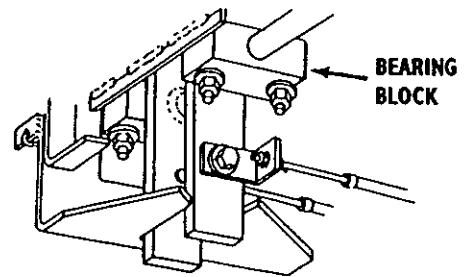

FIGURE 13
- b. Loosen bearing blocks at steering levers. (see figure 13).